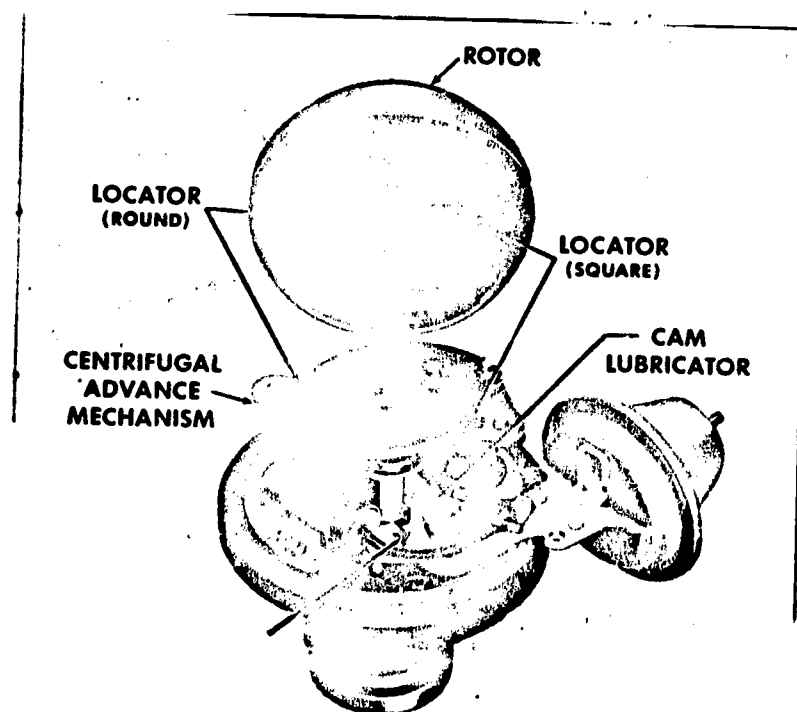

Figure 2
4. Remove distributor cap, coil wire, rotor. See Figure 2.